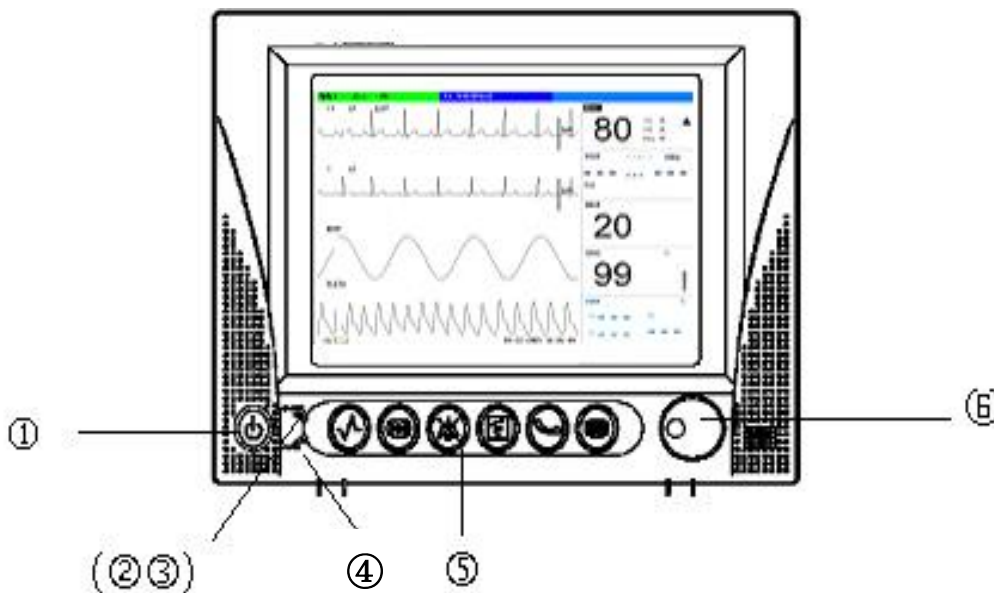

Figure 1-1 Button Functions of M8B
The POWER switch is on the left of the front panel (Figure 1-1①). The POWER indicator lights when the monitor is powered on (Figure 1-1②). The CHARGE indicator shows the charging status (Figure 1-1③). The ALARM indicator flashes when the alarm is triggered (Figure 1-1④). The sockets of various sensors are on the left panel. Other sockets and power plug-in are on the rear panel. The recorder is on the right panel.
M8B Multi-parameter patient monitor is a user-friendly device with operations conducted by a few buttons and rotary knob on the front panel (Figure 1-1⑤⑥). Refer to **Button Functions**.